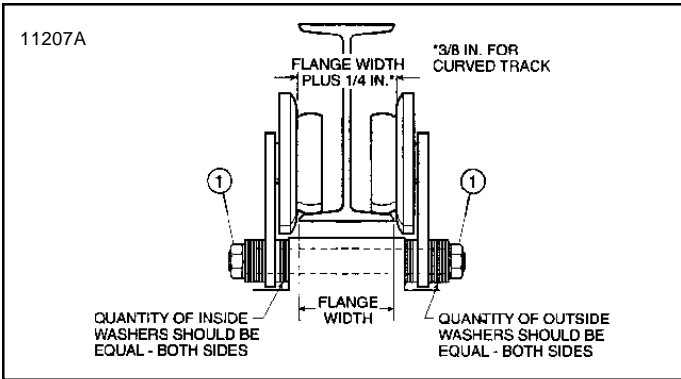

Figure 2-1. Sectional View of Trolley showing proper wheel and washer spacing.
b. Trolley Mounted hoists are attached to moveable trolleys. If the hoist is mounted on an existing trolley, a qualified person shall determine that the trolley and its supporting structure are adequate to support the rated load and weight of the hoist. Hoist/trolley units may be shipped from the factory with trolley packaged separately. If the trolley can be installed directly over the end of the supporting beam, assemble trolley to hoist. Be certain that the spacing between wheel flanges, after assembly, is 1/4" greater than exact width of beam flange. (See Figure 2-1 below and instruction sheet furnished with trolley.) Using proper equipment, carefully lift trolley and hoist and install on end of beam.
For trolleys which are to be mounted along the span of a beam not having open ends, measure exact width of beam flange and assemble trolley to hoist so that spacing between wheel flanges is 1/4" (see Figure 2-1) greater than beam width (3/8" if beam has curves). This is accomplished by rearranging the spacer washers on the bolts connecting trolley side plates to hoist mounting lug. If trolley is shipped separate from hoist, see instruction sheets furnished with trolley for orientation and installation.
When proper spacing has been determined, loosen mounting nuts (item 1, Figure 2-1) to allow trolley wheels to spread far enough to pass over edges of beam flange. (Some installations may require complete removal of one trolley side plate.) Using adequate equipment, carefully lift the hoist and trolley so the wheel treads will rest on the lower beam flange. Replace side plate and washers if removed for installation. Replace suspension stud nuts.